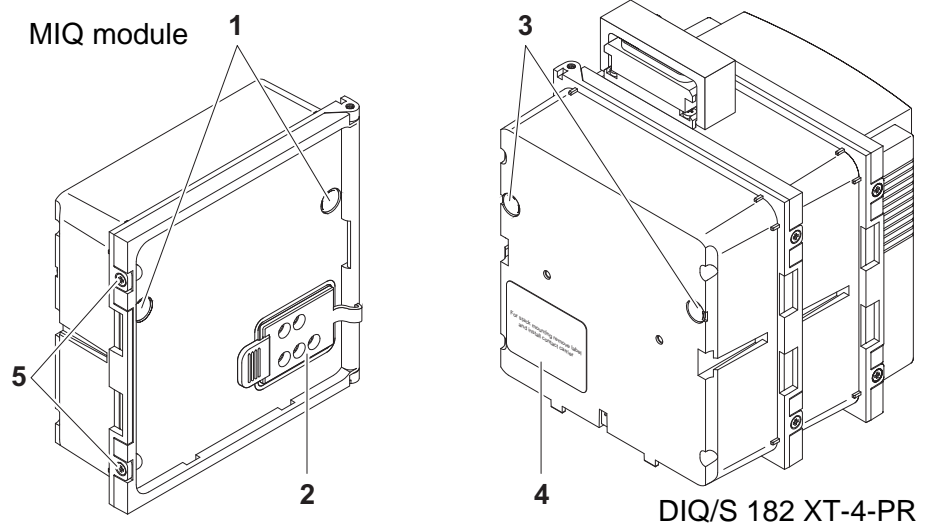

Fig. 3-7 Preparing the MIQ modules for stack mounting (variant 2)
1	Remove the covers from the drilled mounting holes (pos. 1 and 3 in Fig. 3-7).